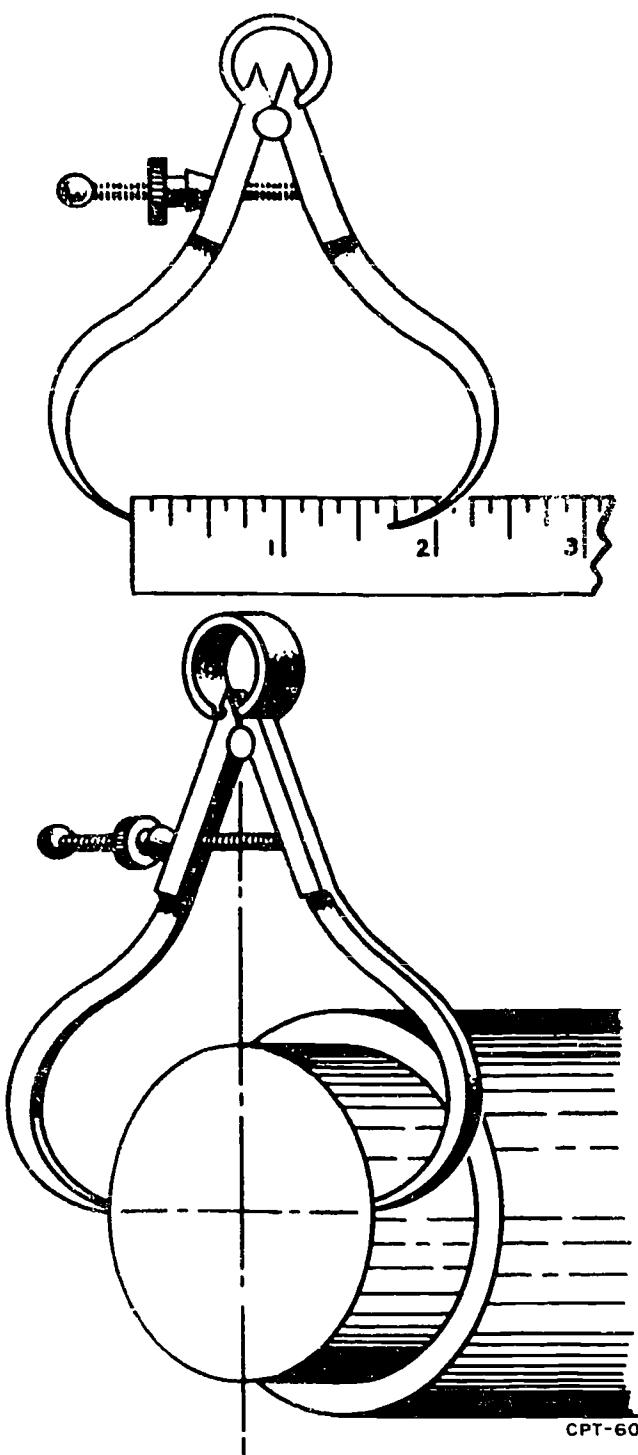

Figure 1-31. Using an outside caliper.
**Outside calipers.** Outside calipers are used for measuring outside dimensions, as shown in figure 1-31. The illustration shows how the outside caliper can be used to measure diameters such as the diameter of a round stock; it also shows how the caliper can be set to a desired measurement and the stock checked for conformance with specifications. In order to prevent errors in measurement, hold the legs of the caliper at right angles to the object being measured.